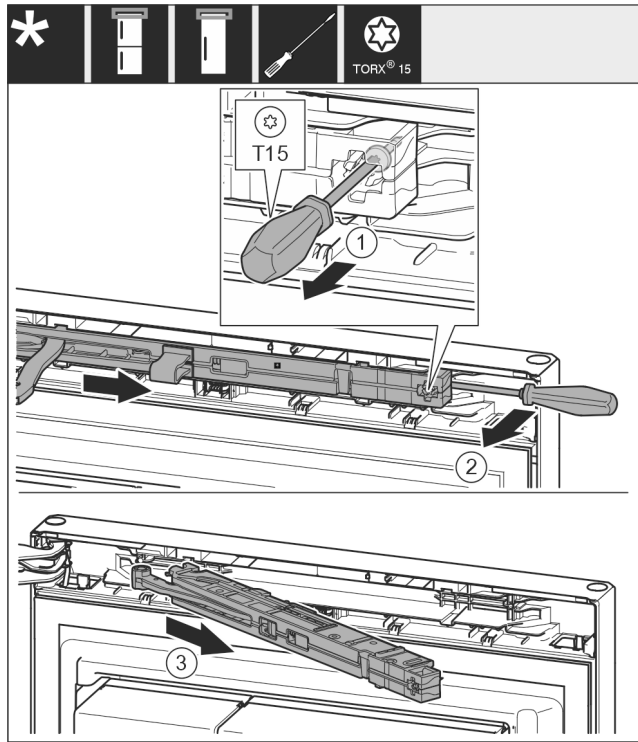

Fig. 11
- Use screwdriver to loosen the screw Fig. 11 (1) on the closing damper unit by 14 mm.
- Lever the closing damper unit Fig. 11 (2) forwards on the handle side using a screwdriver.
- Pull out the closing damper unit Fig. 11 (3).